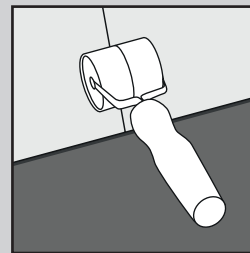

Fig. 4
- Continue to install planks across the room until the row is complete using a hand roller to assist (Fig. 4). Only if necessary, use a rubber mallet and an offcut of the product to gently tap the product. A pull bar can be used to pull the product together around the edges of the room (Fig. 5).